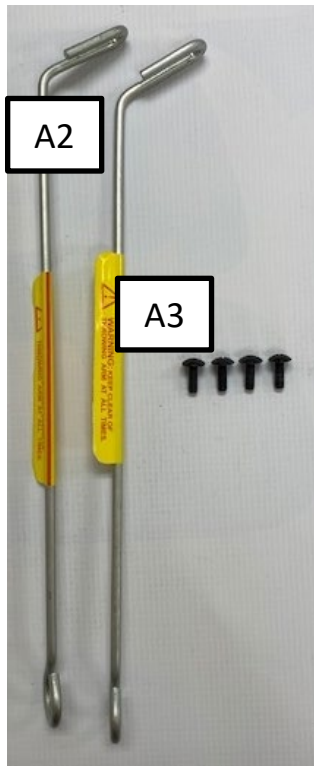

Figure 19
- A. Install the safety tube supports (A2) by tightening two button head screws (A3) on each side of the Trap Body Assembly (TB1). The four holes are located on the Trap Body Assembly (TB1) front, as shown in figure 19.